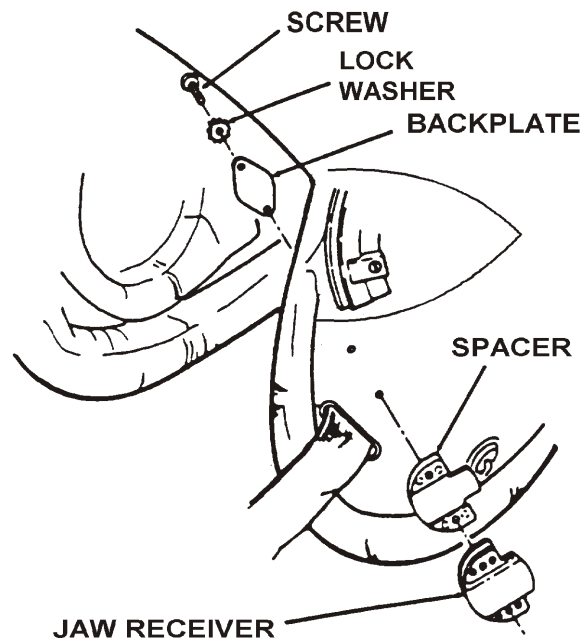

Figure 3-17. Bayonet Receiver Assembly
- a. Hold pile fabric fastener away from the interior helmet shell assembly. Referring to Figure 3-17, insert screws with lock washers through the backplate from the inside of the helmet shell assembly. Attach jaw receiver and spacer to outside of the helmet shell assembly. Ensure that projections on jaw receiver are pointing toward the rear of the helmet shell assembly.